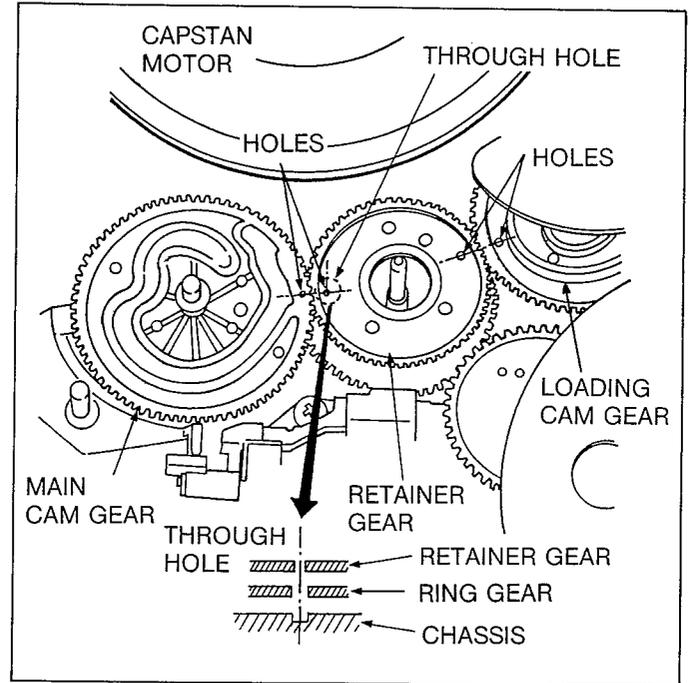

Fig. A6
2. Install the Retainer Gear on to the Ring Gear so that the hole of Retainer Gear is exactly in line with the hole of Main Cam Gear, at this time, this hole of Retainer Gear also is exactly in line with the hole of Ring Gear. At the same time, another hole of Retainer Gear is exactly in line with the hole of Loading Cam Gear as shown in Fig. A6.